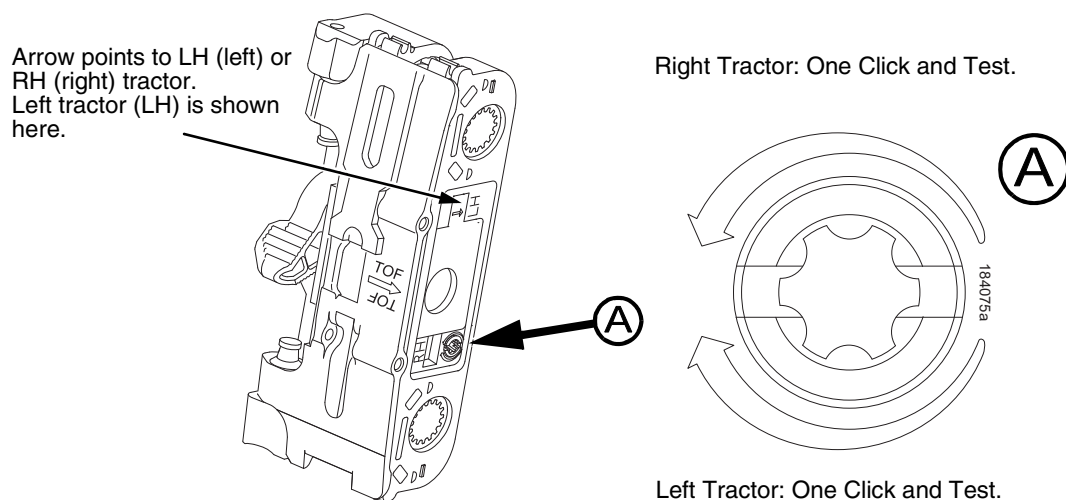

Figure 19. Tractor Belt Tension Adjustment
3. Carefully note the initial position of the adjustment screws. (Figure 19.)
4. On the inner side of the left tractor, use a Torx T-10 driver to rotate the adjustment screw one detent to increase tension. On the inner side of the right tractor, use a Torx T-10 driver to rotate the adjustment screw one detent to increase tension. (See Figure 19.)